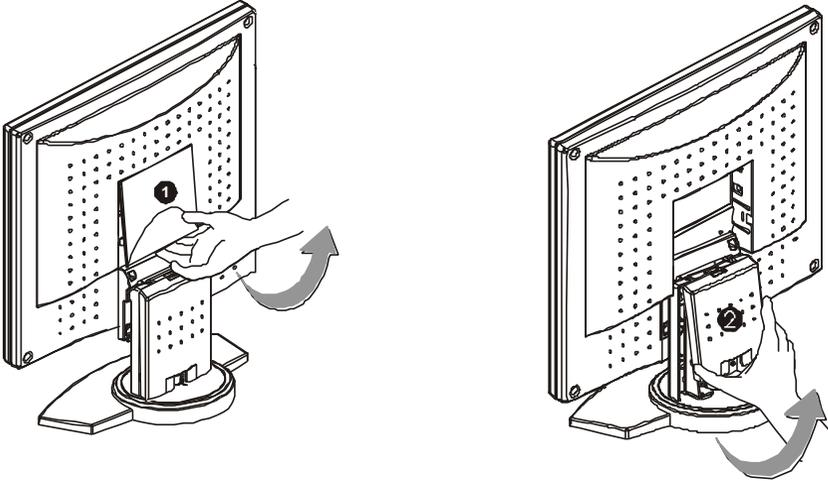

Figure 1-2
1. Remove the back panel ❶ from the rear of the monitor. (See Fig. 1-2)
2. Remove the rear support panel ❷ from the swivel base support column. (See Fig. 1-2)